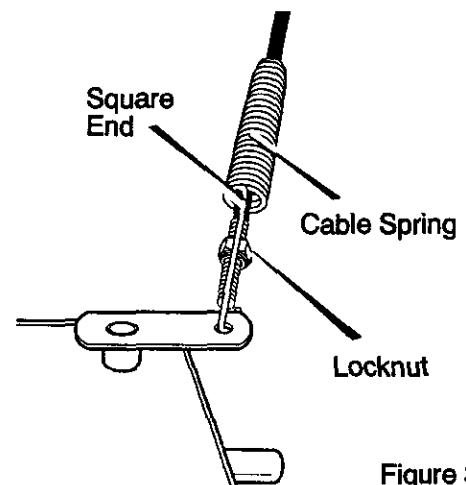

Figure 33
3. Push cable through spring to expose the threaded portion of the cable (see Figure 33).